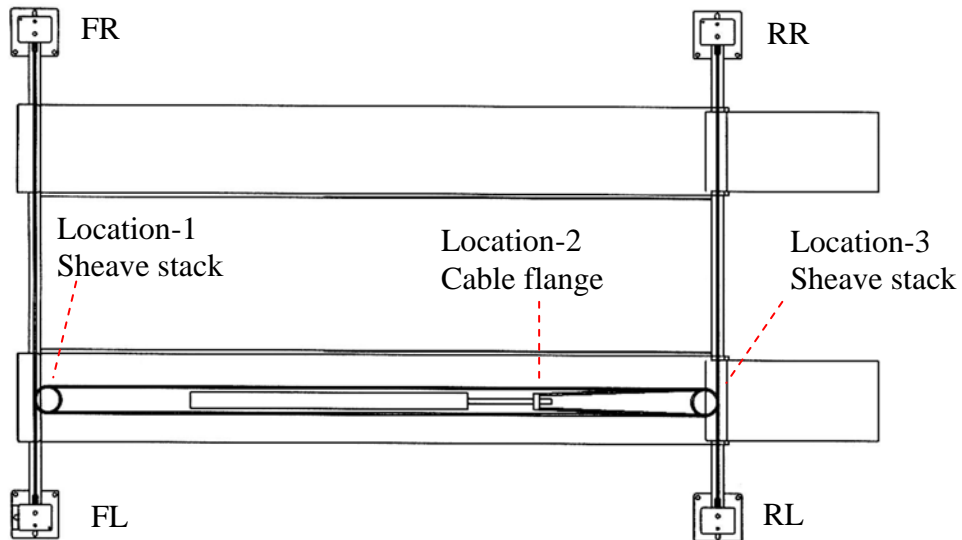

Figure 3 Locations of damage.
1) Indicate the rope and location of the broken wires according to the sketch in Figure 3, for example: “close to RL”, “between Location-2 and Location-3”, etc.
If “Yes”, indicate the rope and location of the rust according to the sketch in Figure 3, for example: “close to RL”, “between Location-2 and Location-3”, etc.
If “Yes”, indicate the rope and location of the wear according to the sketch in Figure 3, for example: “close to RL”, “between Location-2 and Location-3”, etc.